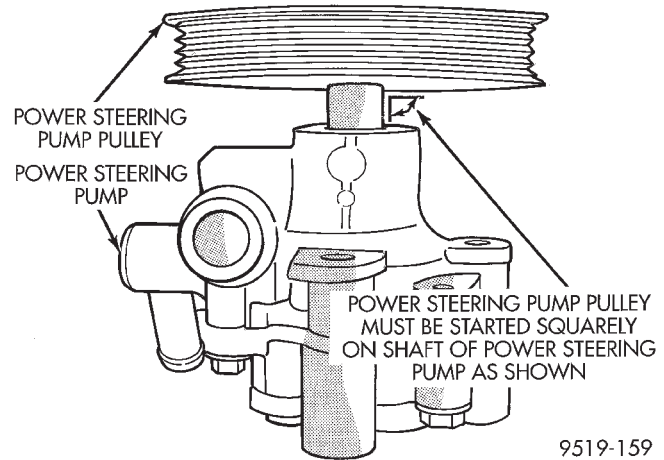

Fig. 32 Pulley Positioned On Shaft Of Power Steering Pump
(2) Place power steering pump pulley squarely on end of power steering pump shaft (Fig. 32).